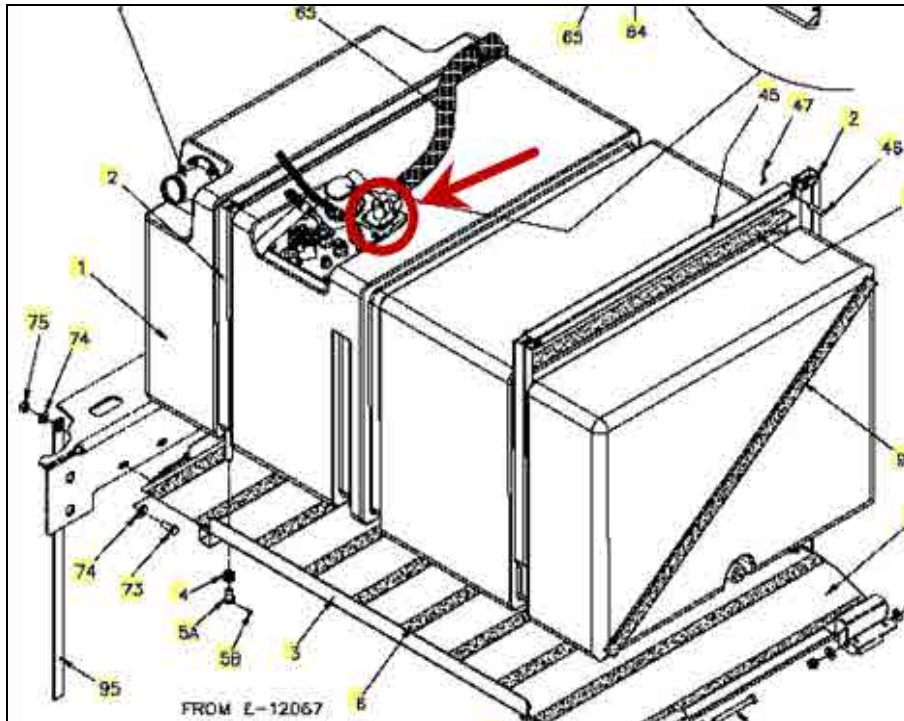

FIGURE 6
3. Remove screws holding level control valve to fuel tank connection panel (level control valve identified on figure 6). Also remove cable tie from end of existing vent hose. Remove assembly from the tank.